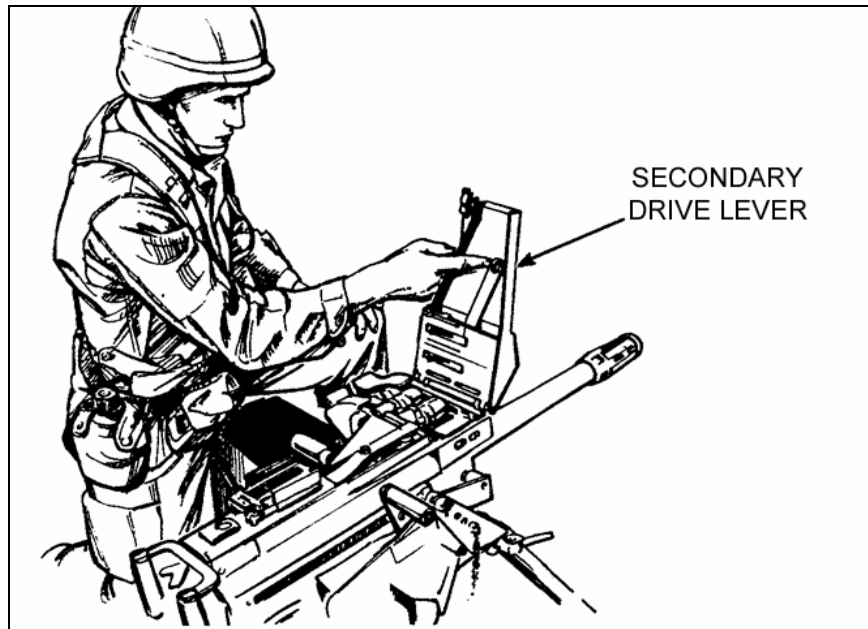

Figure 2-28. Positioning of feed slide assembly.
- (2) Push the round across the secondary feed pawl. To move the feed slide to the left, push the secondary drive lever to the right (Figure 2-28).
- (3) Close the cover.